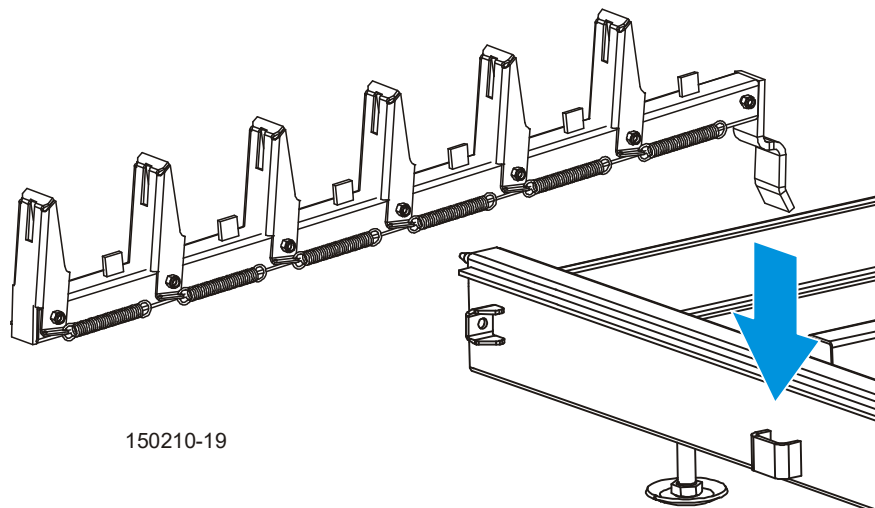

FIG. 5-1
4. Place the **optional** loading ramps* (part number 015804) in the frame brackets that will evenly support the length of the log- See FIG. 5-1..